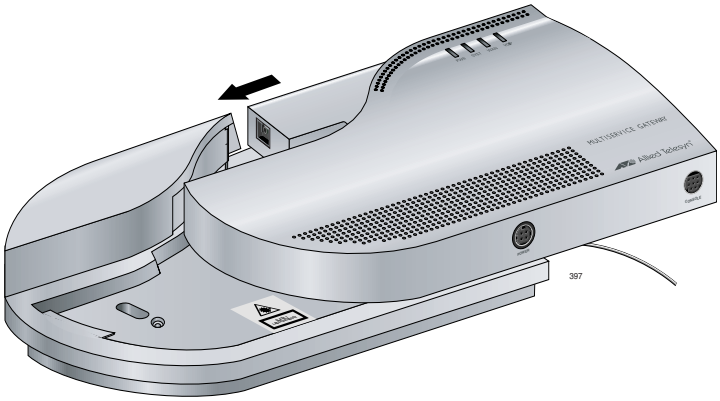

Figure 21. Mounting the Gateway on the Base
- Slide the AT-iMG606BD Multiservice Gateway onto the base, matching the grooves, until the fiber optic cable snaps into place in the port and the gateway is aligned with the base, as shown in Figure 21.